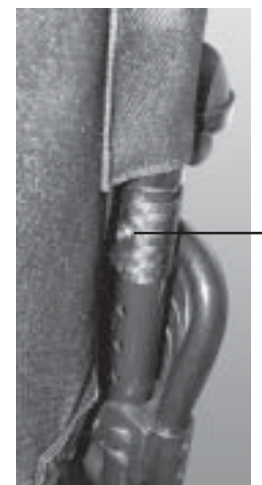

Figure 7. Seatback Screw Installation
8. Insert the seatback screws back into the seat canes with the screw head on the inside. See figure 7.